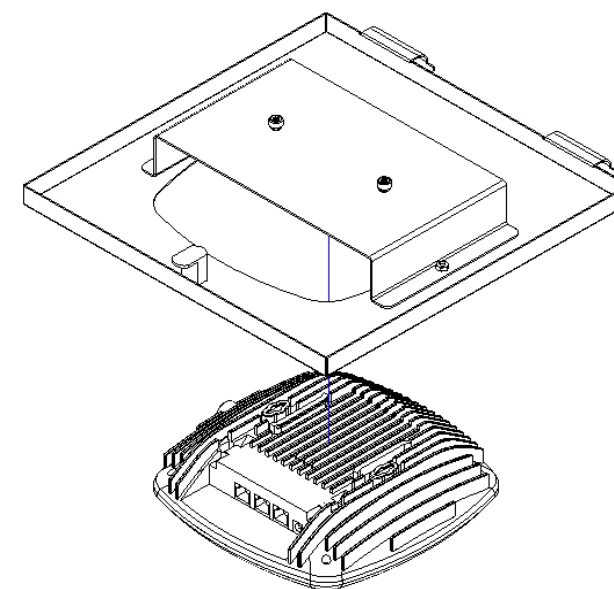

Figure 5
Step 5 - To install the Extreme AP, lift the EX3935 access point into the opening in the door. With one hand, press the access point to the bottom surface of the mounting plate (Ref. Figure 5).